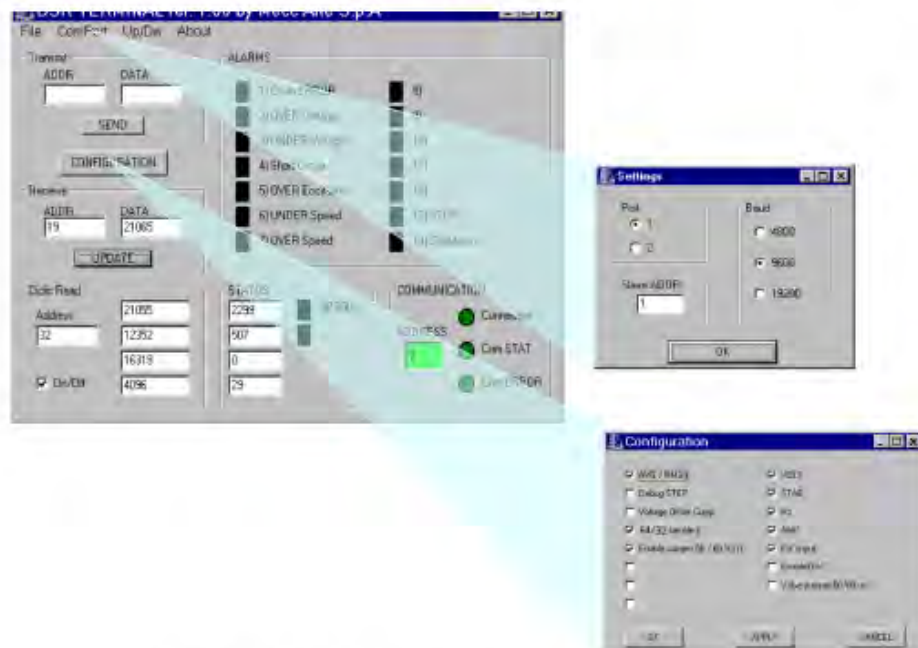

Fig. 11. DSR Terminal user Interface: Settings and Configuration Menu
Upon opening the user interface, the program is presented as indicated in the left part of figure 11.
2. **Settings** opens a window (as shown in figure 11), through which several parameters, concerning communications, can be set: